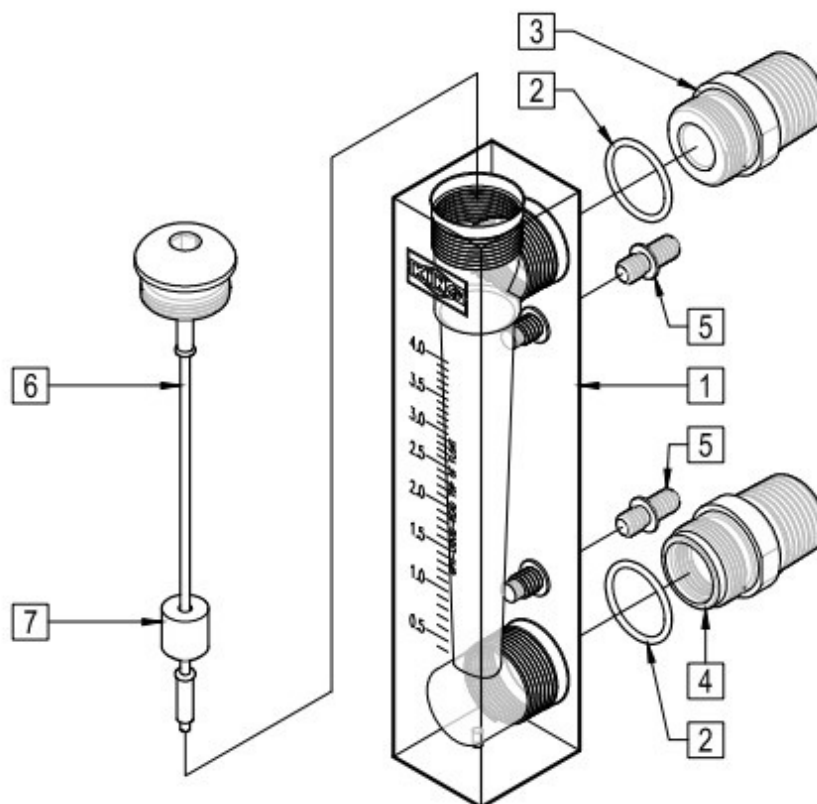

Figure 1
- b. Carefully remove the flowmeter from the piping system. Gently remove the 'Top Plug/Guide Rod' from the 'Acrylic Meter Block' using an Allen Wrench of appropriate size. All necessary instrument components are now fully accessible for cleaning with a small bottle brush and appropriate warm water/mild soap solution, if necessary*. Refer to 'Figure 1'.